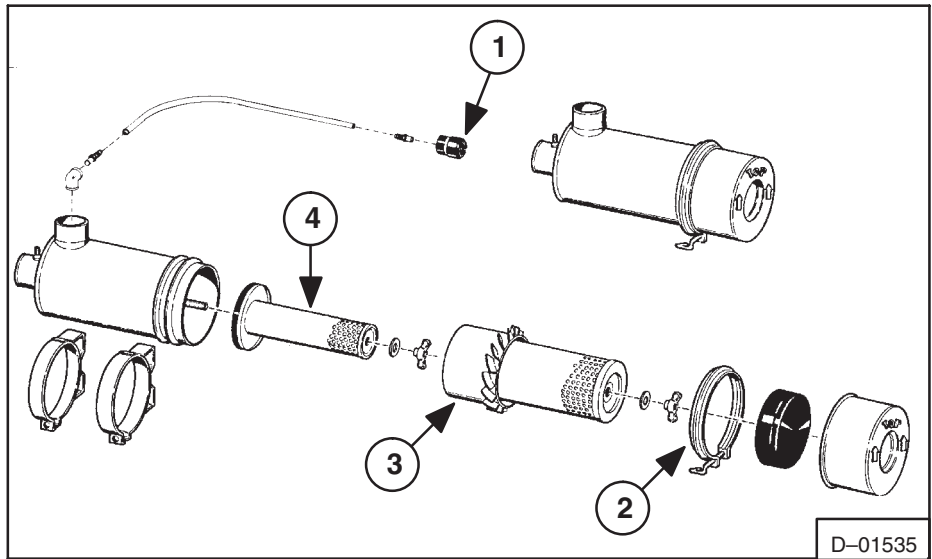
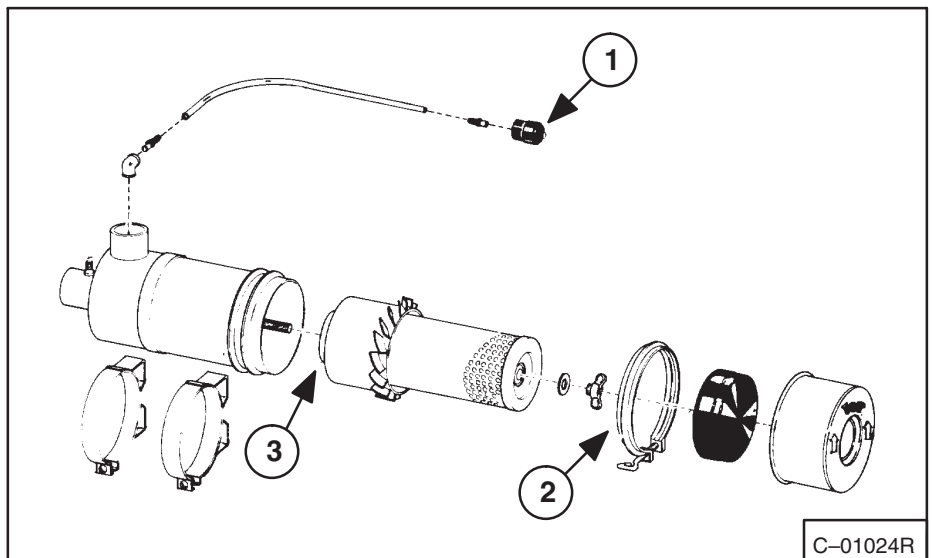

Fig. 1-15 Air Cleaner Service (641, 643)
Fig. 1-16 Air Cleaner Service (642)
Do not replace the filter element unless the red ring shows in the condition indicator (641 & 643, Fig. 1-15, Item 1; and 642, Fig. 1-16, Item 1).
1. Loosen the clamp on the dust cup (Fig. 1-15, Item 2). Remove the dust cup and the element.
2. Clean the inside of the filter housing so the element has a smooth surface to contact at the seal (Fig. 1-15, Item 3).
**NOTE: Replace the inner element (Fig. 1-15, Item 4) approximately every third time unless the red ring still shows in the condition indicator after replacing the outer element.**
1. Loosen the clamp on the dust cup (Fig. 1-16, Item 2). Remove the dust cup and the element.
2. Clean the inside of the filter housing so the element has a smooth surface to contact the seal (Fig. 1-16, Item 3).
5. Push the button, at the condition indicator (Fig. 1-16, Item 1) to remove the red ring.